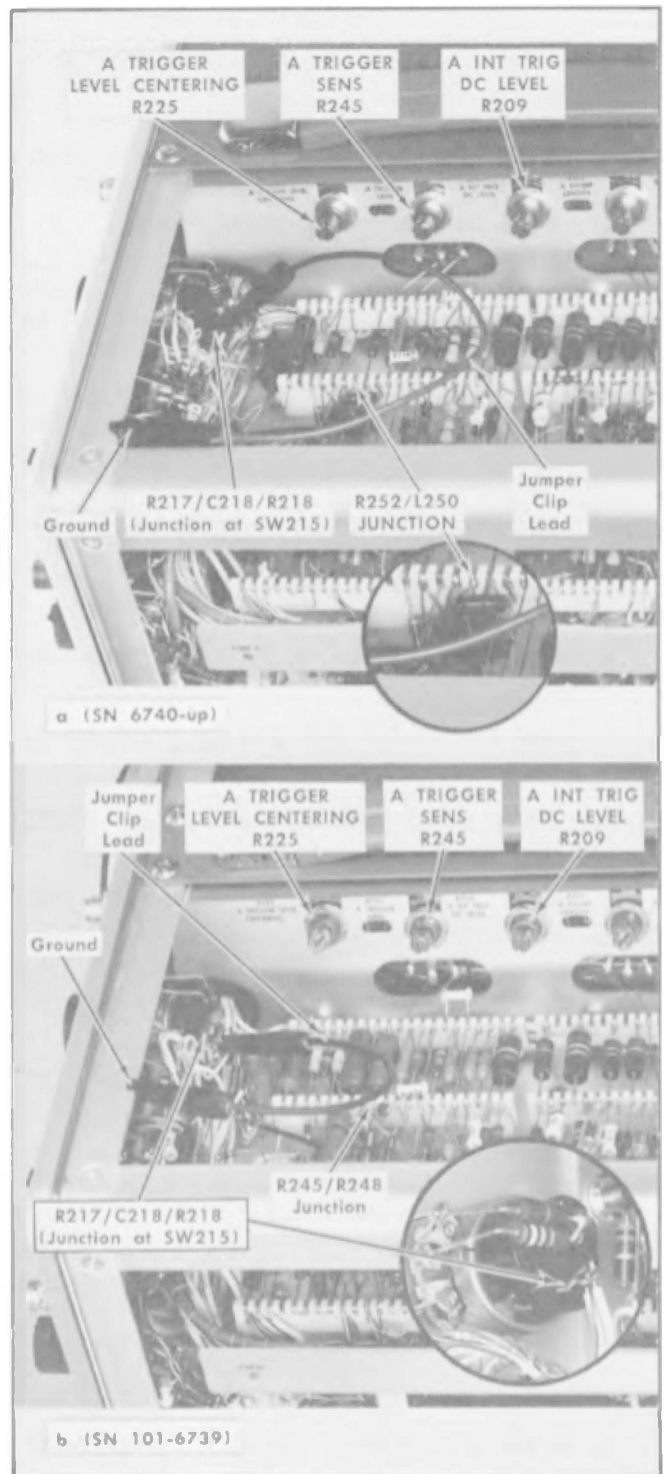

Fig. 5-6. A Trigger clip-lead connections, adjustment and test point locations.
- f. Adjust A INT TRIG DC LEVEL R209 (see Fig. 5-6) to obtain a stable display. (With the A SLOPE switch set to +, the sweep trace should start on the positive-going rise of the calibrator waveform.)